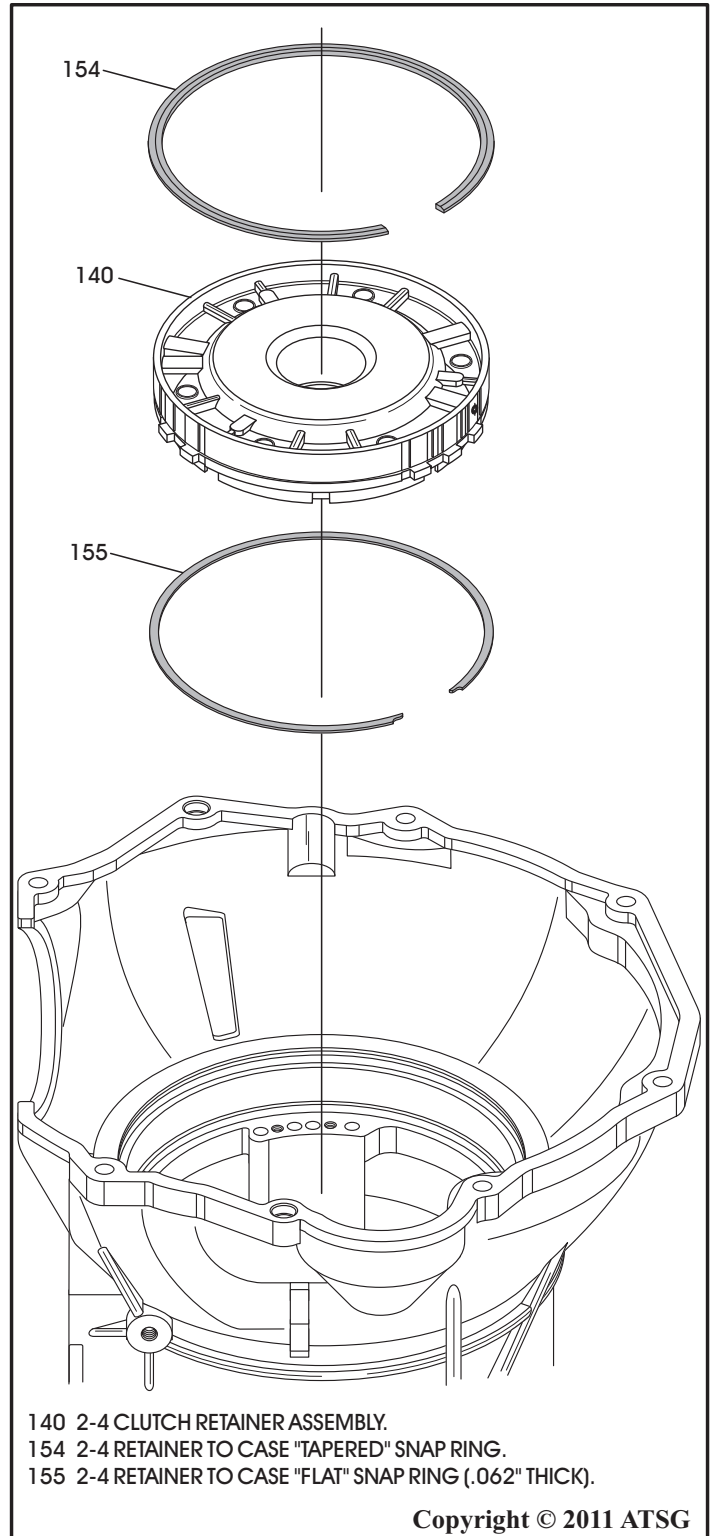

Figure 146
15. Install the 2-4 clutch retainer *flat* snap ring into lower groove in the case with snap ring opening facing the valve body area (See Figure 146).
16. Install the completed 2-4 clutch retainer into the case, as shown in Figure 146, with the feed holes facing the valve body area.
17. Install the 2-4 clutch retainer *tapered* snap ring into the case with taper facing up, as shown in Figure 146, and ensure it is fully seated.